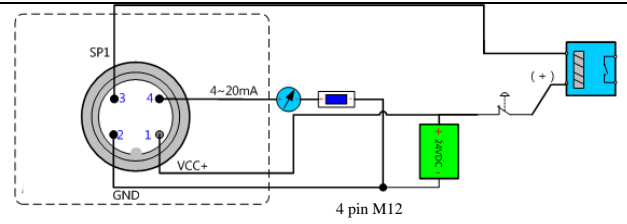

Figure 5-5 1 channel NPN+4~20mA analog signal output (4-wire system)
b) NPN the wiring diagram is shown in Figure 5-5,5-6,5-7